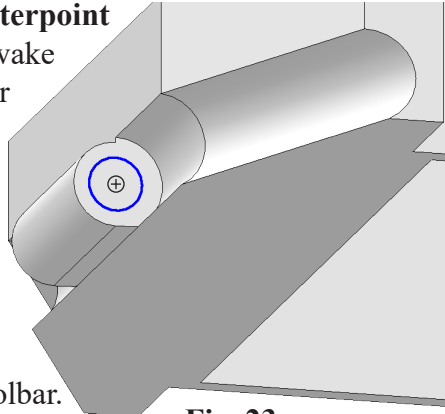

Fig. 23
Step 2. Click **Circle**  (S) on the Sketch toolbar.
Step 3. **Sketch circle at centerpoint of cut, Fig. 23**. To wake up centerpoint, hover cursor over circular edge of cut.